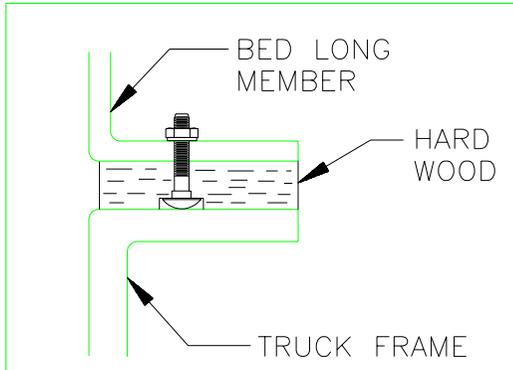

Figure 10: Board Placement
8. Using hard wood boards that are one inch thick and the same width as the frame, cover the bottom of the bed long members where the long members will rest on the truck frame when fully lowered (see Figure 10).